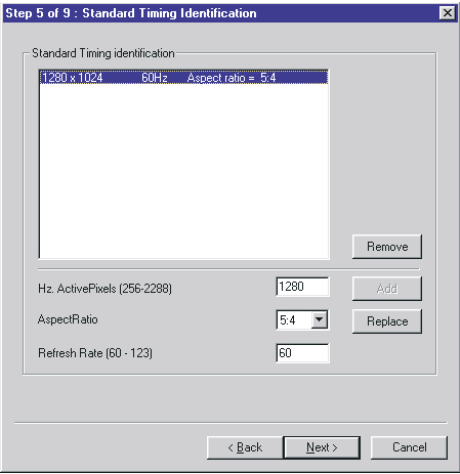

Fig.22
4. Click Next , bring up Fig. 22